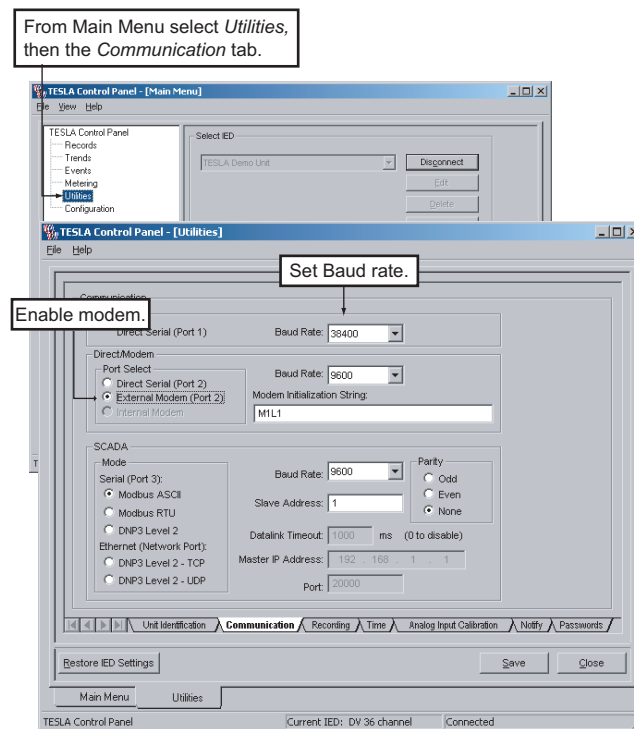

Figure 4.7: Communications Setup Utility
- Internal modem configuration is done in the same way as for an external modem. Modem Initialization String which is "M1" for internal modems (see Figure 4.7: Communications Setup Utility on page 7).